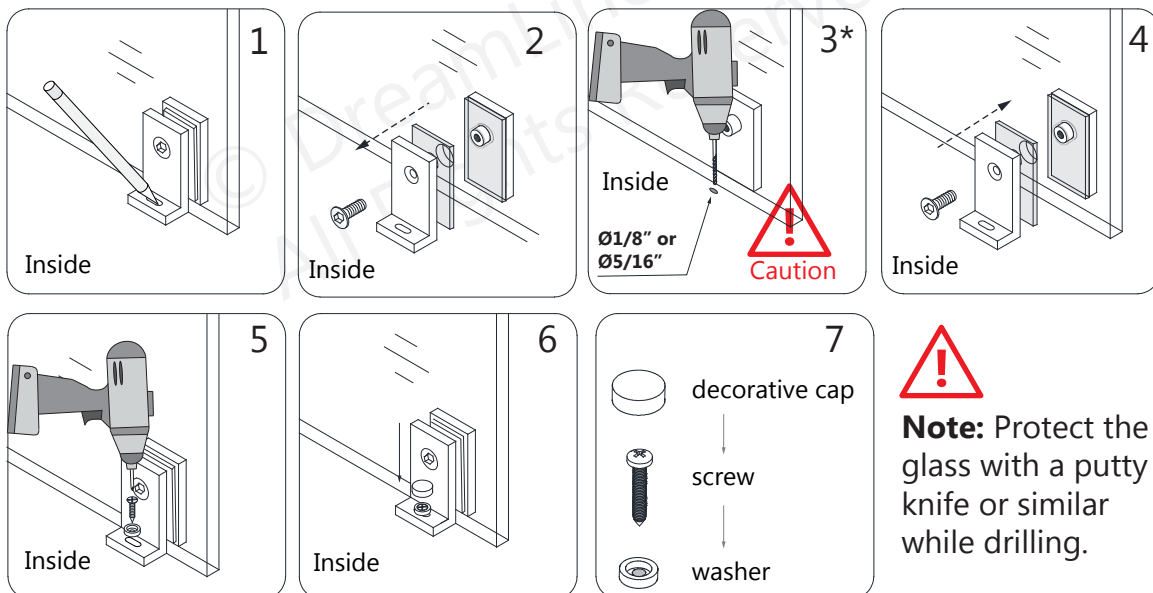

Fig 16
16. Assemble the **Bottom Brackets (#16)** onto the bottom of both lites of the **Stationary Glass**, using the gaskets to prevent glass to metal contact. Mark the Shower base through the holes in the flange of the **Bottom brackets (#16)**. Remove the bracket and use either: *an **Ø1/8" drill bit for an acrylic base** (or a **Ø5/16" drill bit and an anchor for installation into a tile threshold**). Replace the bracket and fasten the bottom brackets using the **Pan Head Screws ST4.2×25 (#09)** and **washers**. Cover the screw and washer with the **Decorative Covers (#10)**. (**Fig 16**)